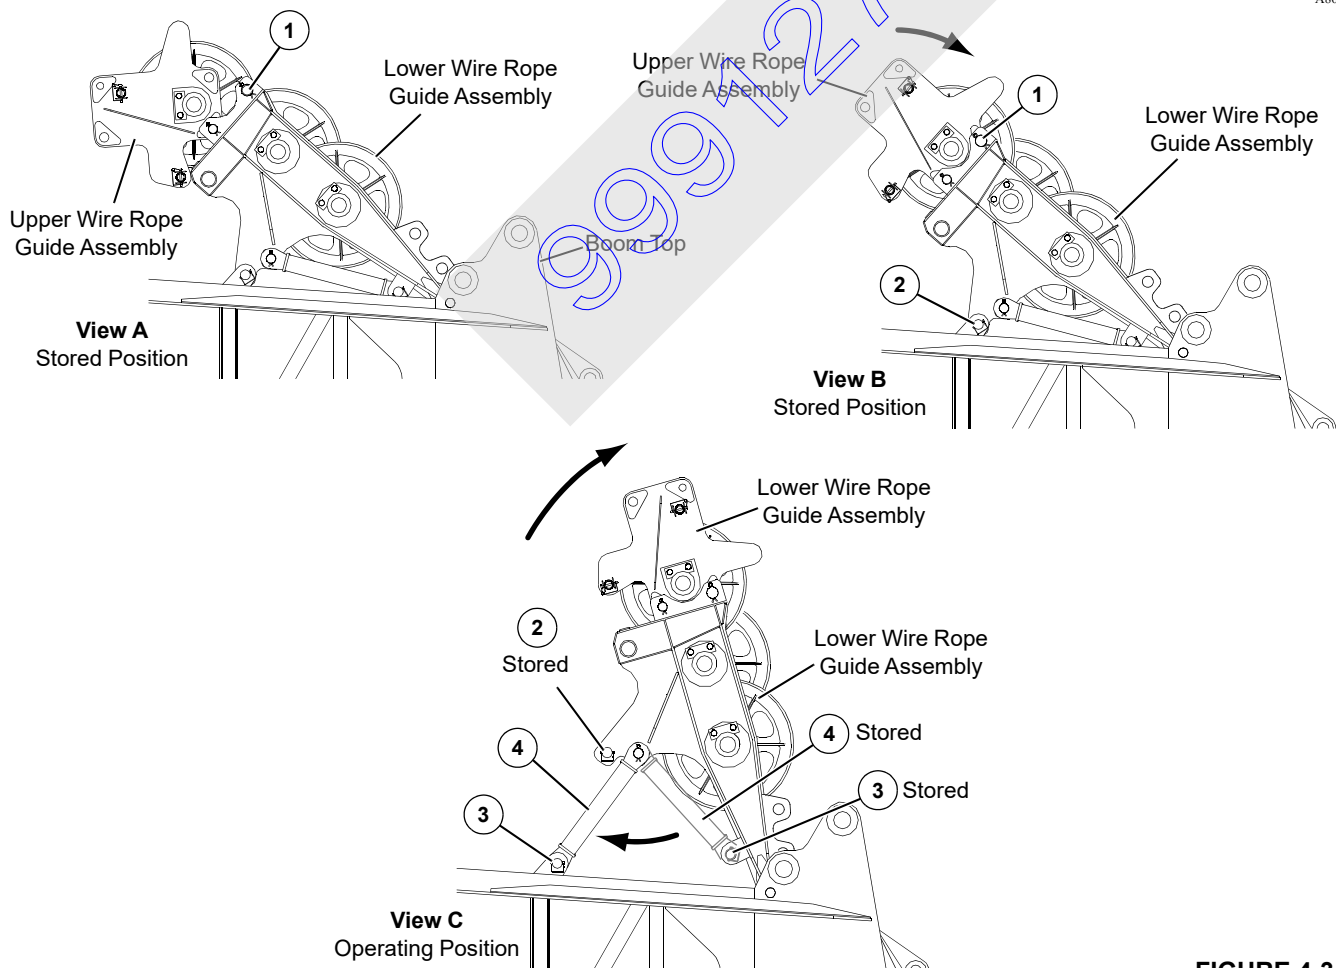

FIGURE 4-34
See Figure 4-34 for the following procedure.
- Store boom top wire rope guide as shown in Figure 4-34, View A.